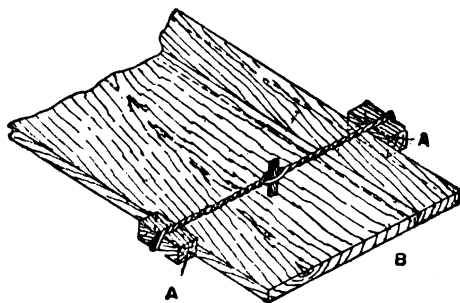

FIG. 1
**Cramping up Boards.**—Fig. 1 illustrates a satisfactory method of cramping up glued and jointed boards by means of rope and blocks. The wood blocks A, about 4 in. long and  $1\frac{1}{2}$  in. square, are placed on the edges of the boards B, and a rope is passed round them twice and knotted. A small piece of wood is then placed between the two strands of rope and twisted round. This twisting draws the rope tighter on the blocks, thereby cramping the boards together. Three of these sets would be sufficient to cramp the boards. A more serviceable cramp is illustrated by Fig. 2. A piece of wood A, about 2 ft. 9 in. long, 6 in. wide, by 1 in. thick, is planed up. On each end of this are fixed blocks B, 6 in. long,